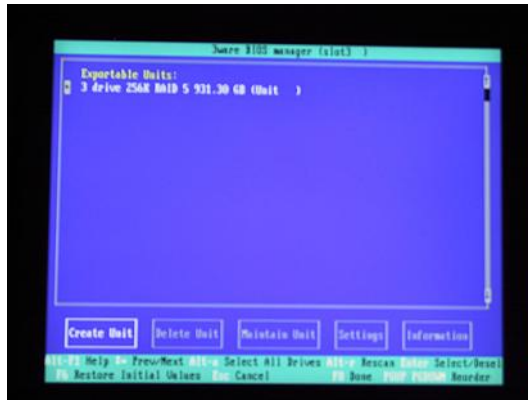

Figure 3-20
- 14) At this point, you will be presented with a summary description of the RAID array you have defined (Figure 3-20).